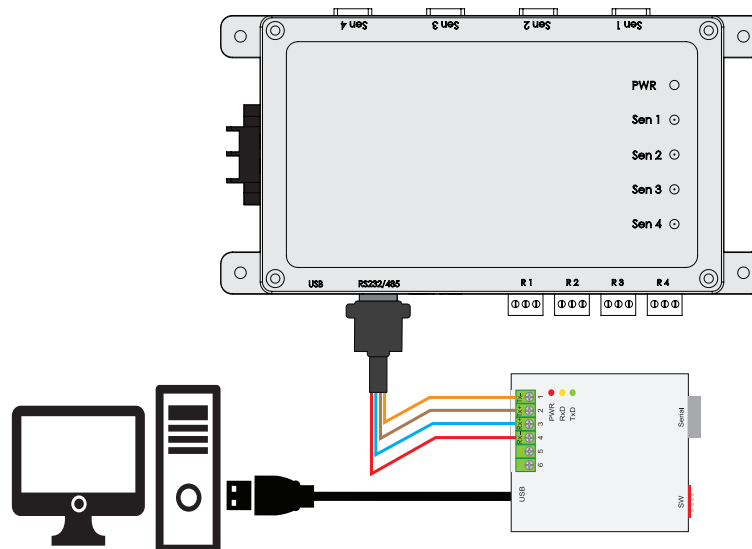

Figure 13. Diagram RS485 Serial connection through control box using and ES-U-3001-M serial converter to PC
6. Connect the cable from RS485 serial output on the control box to ES-U-3001-M converter as in figure 13.